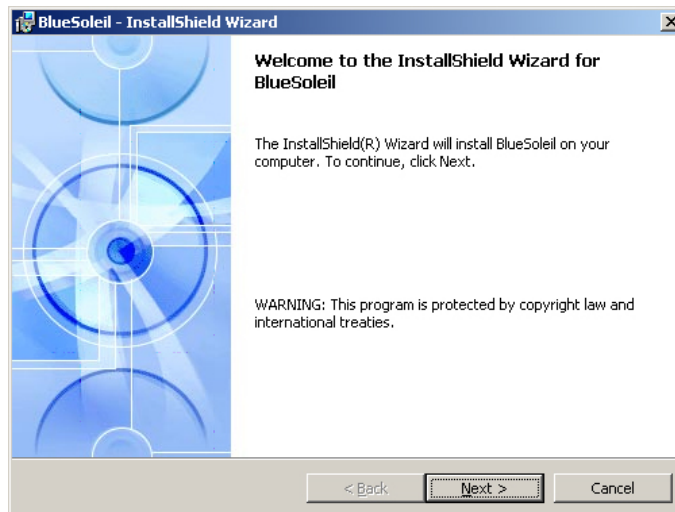

Figure 7-31: Welcome Screen
Step 3: A welcome screen appears (**Figure 7-31**). To continue the installation process click **NEXT**.